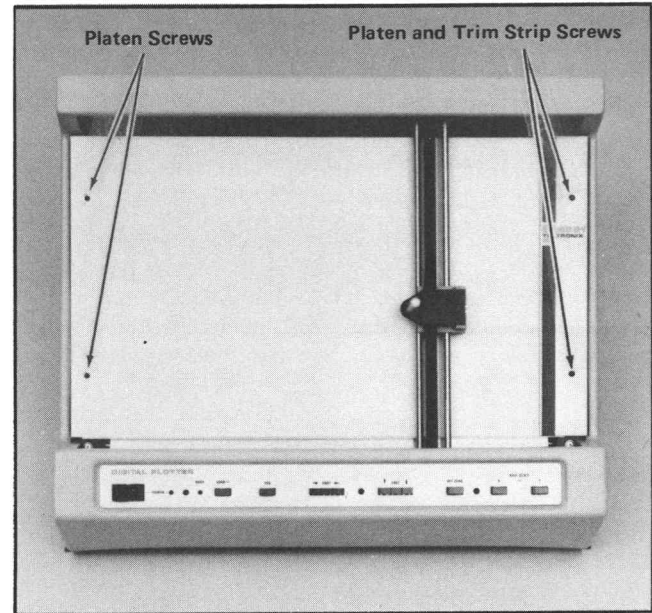

Fig. 3-3. Removing the trim strip.
2. Remove the four allen screws that attach the platen and the 4661 trim strip to the frame, keeping track of the location from which the screws are removed (Fig. 3-3). The screws are of different lengths; noting their position will aid in reassembly. Remove the trim strip.